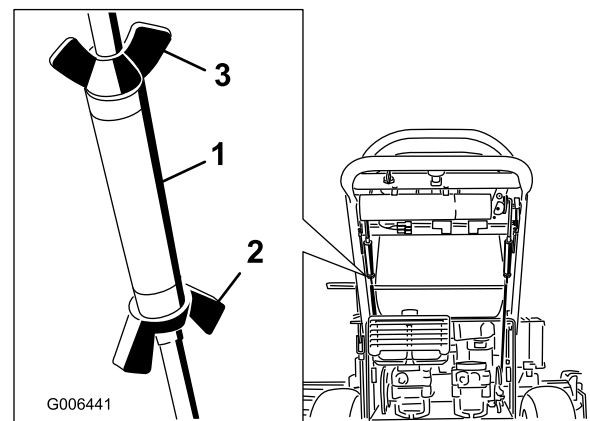

Figure 46
2. Loosen the wing nuts on the right control rod and rotate the turnbuckle in or out to ensure the right side control lever is centered in the neutral lock position. Secure the turnbuckle in position with the wing nuts (Figure 46).
3. Loosen the wing nuts on the left control rod and rotate the turnbuckle in or out to change the tracking. Secure the turnbuckle in position with the wing nuts (Figure 46).